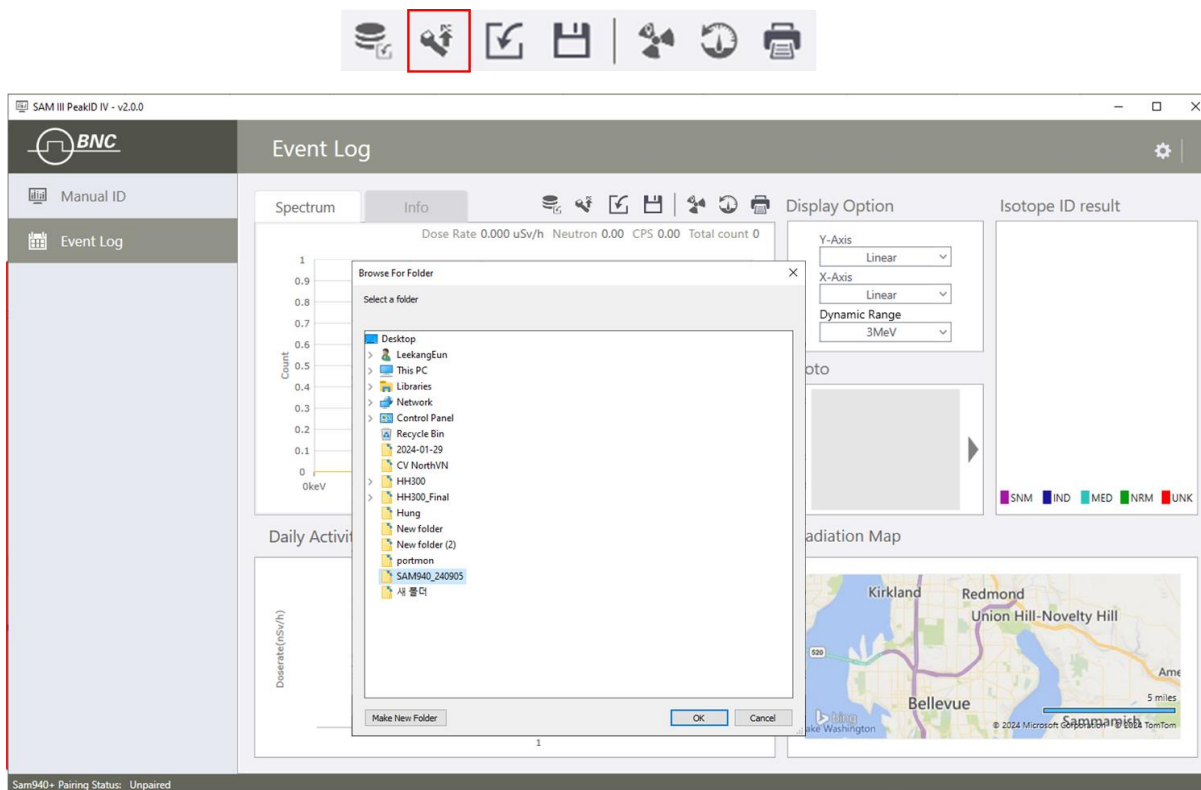
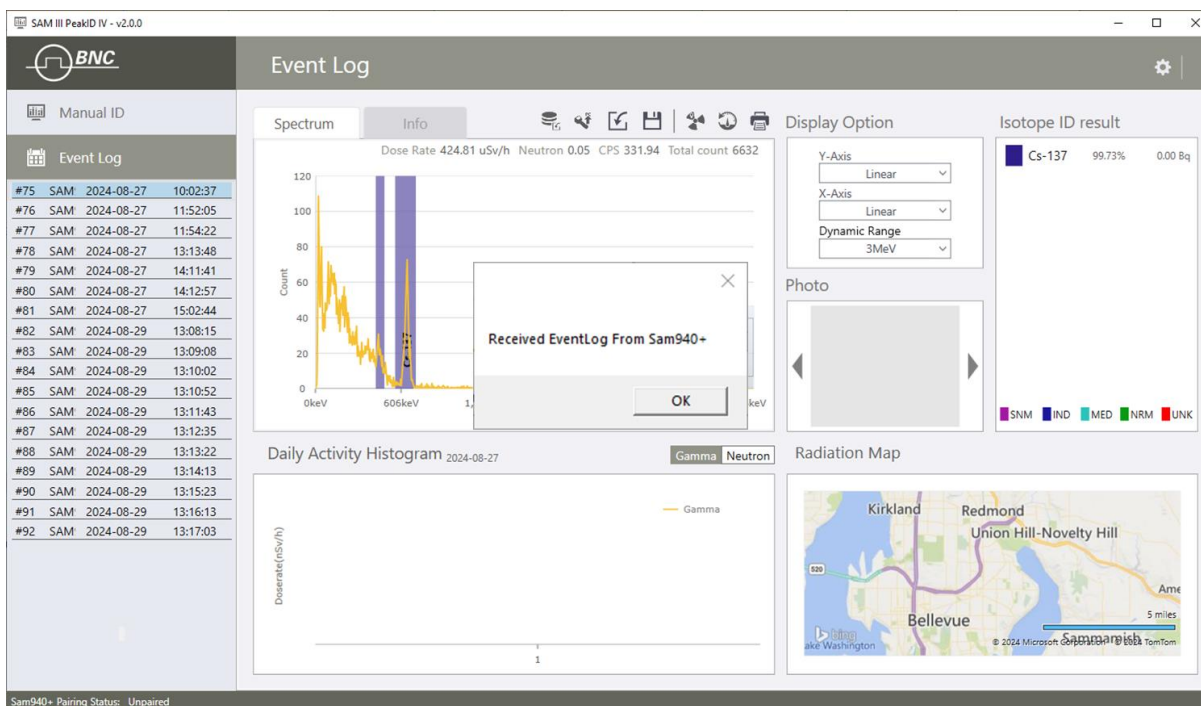

Figure 7.8.4. Select the desired folder to store the event database example
Figure 7.8.5. Download from the SAM 940+ example via USB cable
4. Select the desired folder to store the event database. The database from the device will be copied to this folder shown in Figure 7.8.4. Download confirm message window is popped up as shown in figure 7.8.5.
1. Click the disk icon . The directory screen will appear (figure 7.8.5).